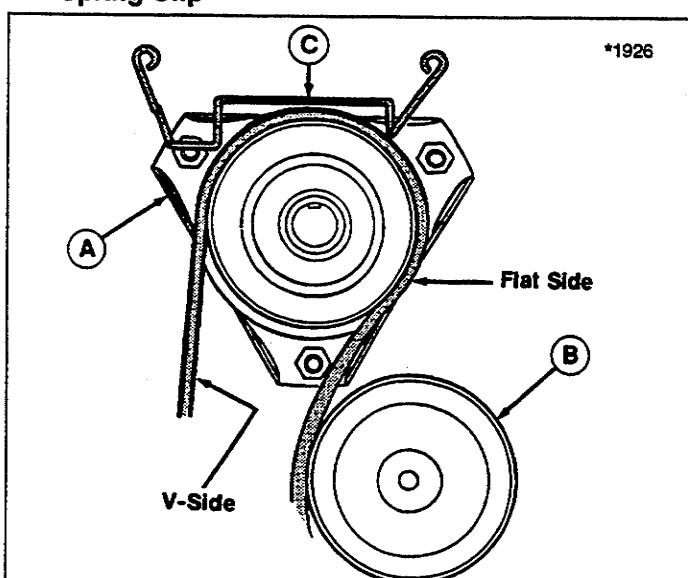

Figure 42. Belt Pulleys
6. Remove belt from PTO pulley. See figure 42. Hardware securing belt stops may have to be loosened in order to remove belt.
8. See figure 42. Make sure mower belt goes underneath rider, and over the drive axle. Install belt around bottom pulley of PTO.
9. See figure 42. Install anti-spin rod to PTO. Insert other end through frame and secure with spring clip.